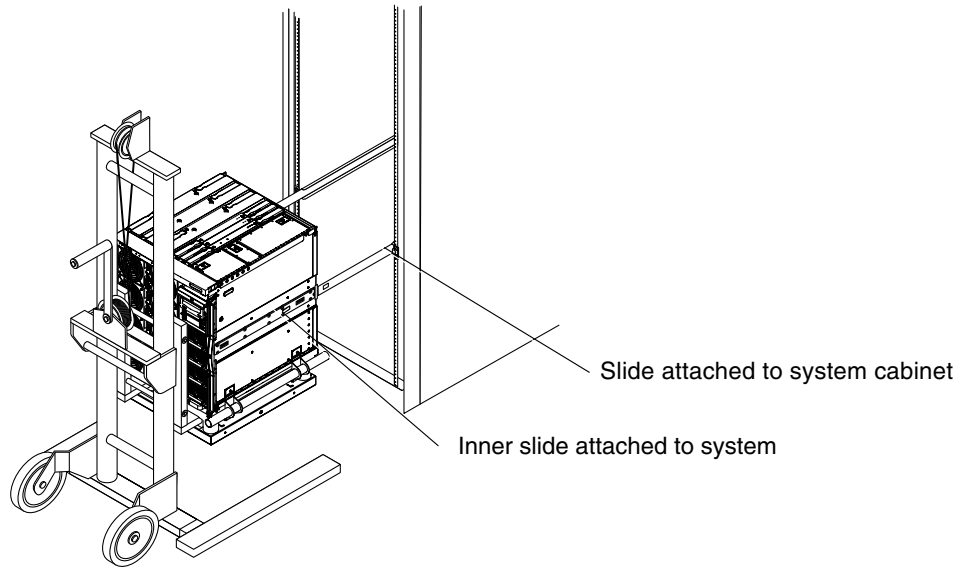

FIGURE 3-10 Detaching the Cabinet Slides From the System
This action pulls the inner slides that are attached to the system out of the slide assemblies that are attached to the system cabinet (FIGURE 3-10).
2. If the new cabinet does not already have slides for this system, remove the slides from the old cabinet and install the slides to the new cabinet (FIGURE 3-10).